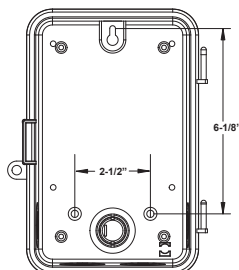

Figure 3 - Rear View of Enclosure
5. Place the enclosure in the desired mounting location, and mark the three mounting holes (refer to Figure 3 below for dimensions). Install the top screw first with one of the supplied spacers, and then hang the enclosure by the key-hole. Drive the remaining two screws at the bottom of the enclosure through the mounting holes while passing each screw through one of the supplied spacers and in to the wall.